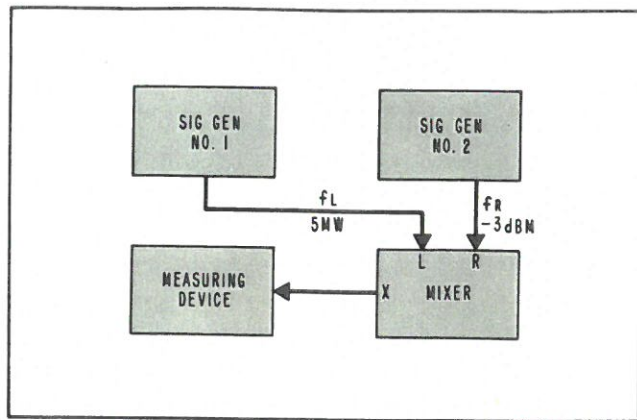

Figure 10. Test Setup-Conversion Loss
- 2) Set output level to be as shown in Figure 10 using RF Millivoltmeter (ϕ Model 411A or equivalent) terminated with 50-ohm resistive load.
b. Make connections as shown in Figure 10.